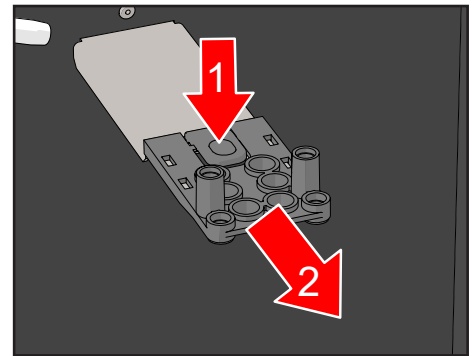

Figure 33.
5. Detach the outlet arm from the cabinet. Press the latch and slide towards you (see Figure 33). Clean with warm water.